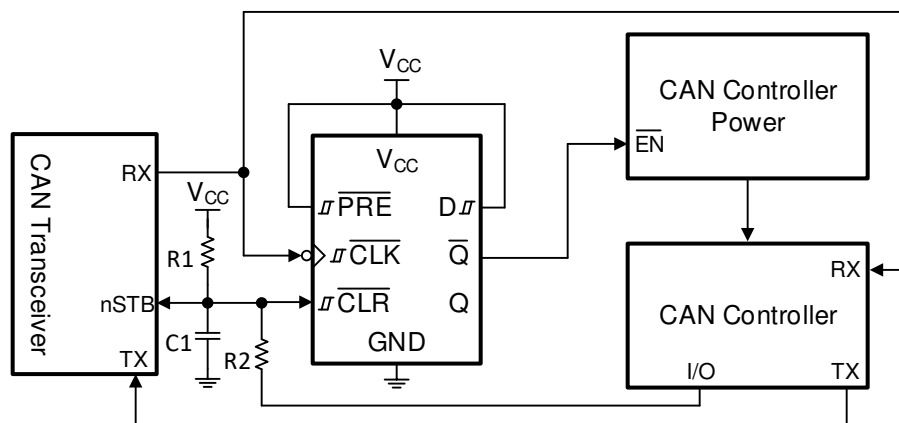

图 12. Power Enable Using CAN Wake-up Request
With the SN74HCS72-Q1, a power on reset circuit only requires a resistor (R) and capacitor (C) to create a delay. The R and C values create a delay that is approximately $2.2 \times RC$. In this application, it is desired to have the output ($\bar{Q}$) in the HIGH state at startup, so R1 and C1 are connected directly to the CLR pin, as shown in 图 12. A second resistor is needed to limit the current into the CAN controller when it sets the circuit back into standby mode. It is required for the R1 resistor to be at least ten times larger than R2 to avoid a divider circuit ($R2 \leq 10R1$).